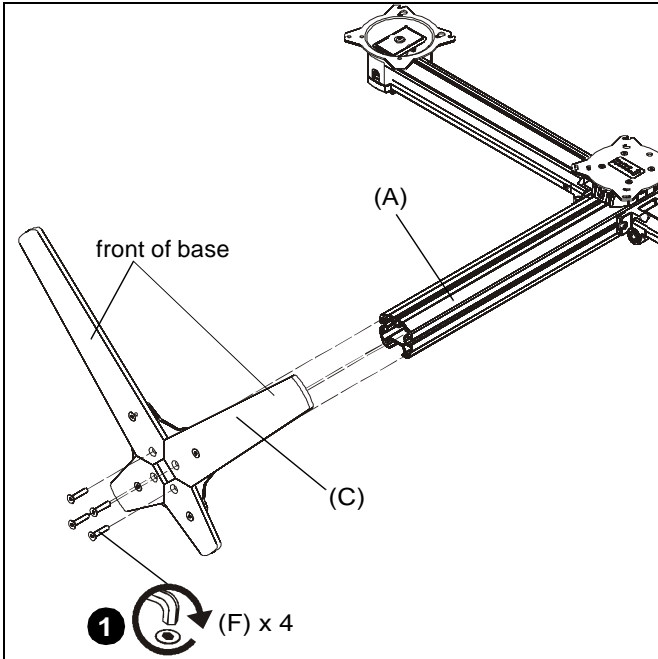

Figure 1
1. Use four 1/4-20 x 1 1/4" flat head cap screws (F) to secure table top base (C) to array assembly (A). (See Figure 1)
NOTE: Make sure front of base (long legs) is on the display side when attaching base to array. (See Figure 1)